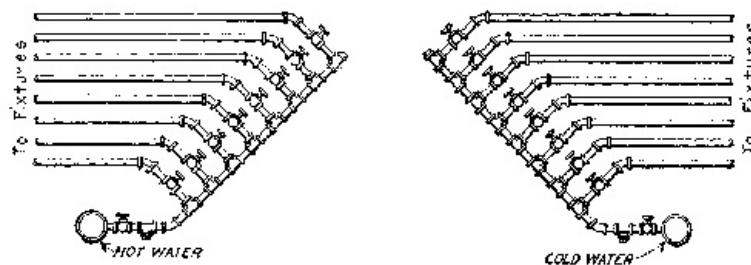

Fig. 70.—"Banjo."
**Piping.**—From the service pipe on which there has been placed a shut-off, a line of piping, full size, is run through the basement, overhead to a convenient place, perhaps to a partition in the center of the cellar. The pipe is brought down and connected into the end of a header. This header or banjo is made of Ts placed 4 inches center to center. From each T a line of pipe is run to each isolated fixture or set of fixtures (see Fig. 70). A stop and waste cock is placed on each line at such a point that all stop cocks will come in a row near the header. A small pipe is run from the waste of each stop cocks and discharged into a larger pipe which connects with a sink. This way of running pipes while it is expensive makes a very neat and good job. Each stop cock has a tag on it stating explicitly what it controls. If the building is a large one a number of these panelled headers are used. A less expensive way to run this pipe is to branch off from the main at points where the branch pipe will be as short as possible and use as few fittings as possible. Stop and waste cocks are then placed on each branch near the main.